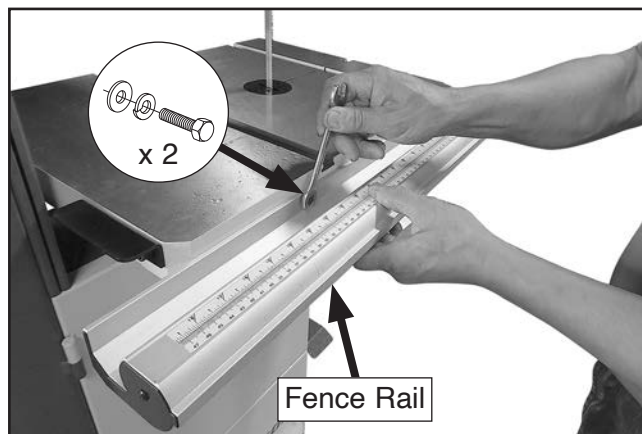

Figure 30. Installing fence rail.
9. Install fence rail using (2) M6-1 x 20 hex bolts, (2) 6mm lock washers, and (2) 6mm flat washers (see **Figure 30**).